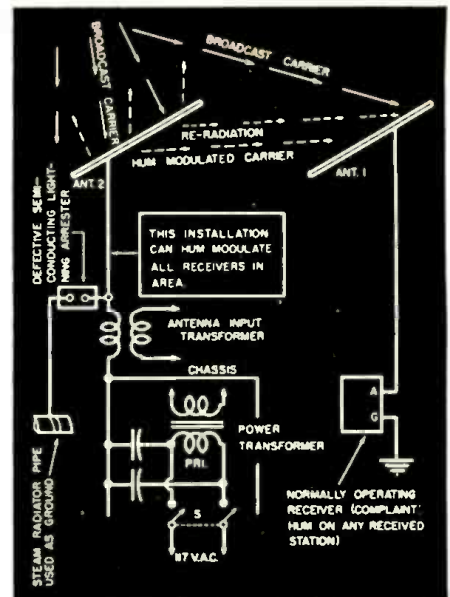

Fig. 1. 60-cycle hum originating in leaky lightning arrester at offending radio set is radiated by antenna to neighboring ones.
Fig. 2. Overhead a.c. power lines as shown in (A) pick up broadcast signals and re-radiate them with added 60 and 120 cps hum modulation. (B) is the equivalent circuit for the hum generator shown in (A) and in Fig. 1.